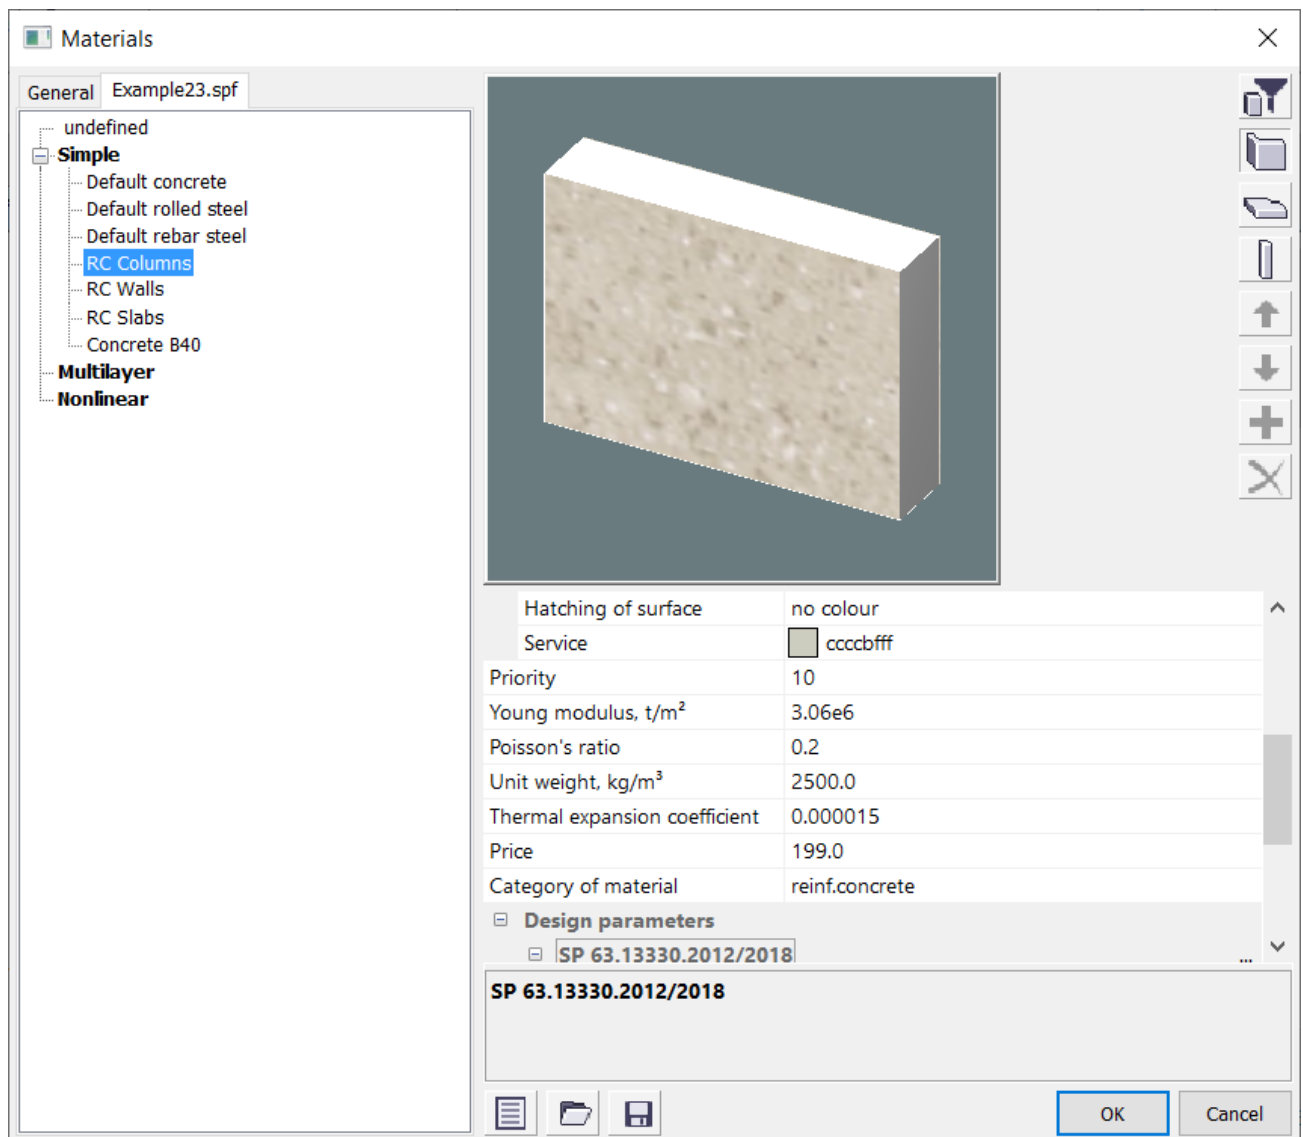

Figure 23.26. **Materials** dialog box
- ⇒ In the **Materials** dialog box (see Fig.23.26), select **RC Columns** from the list and in the right part of the dialog box click the **Browse** button  in the building code row.